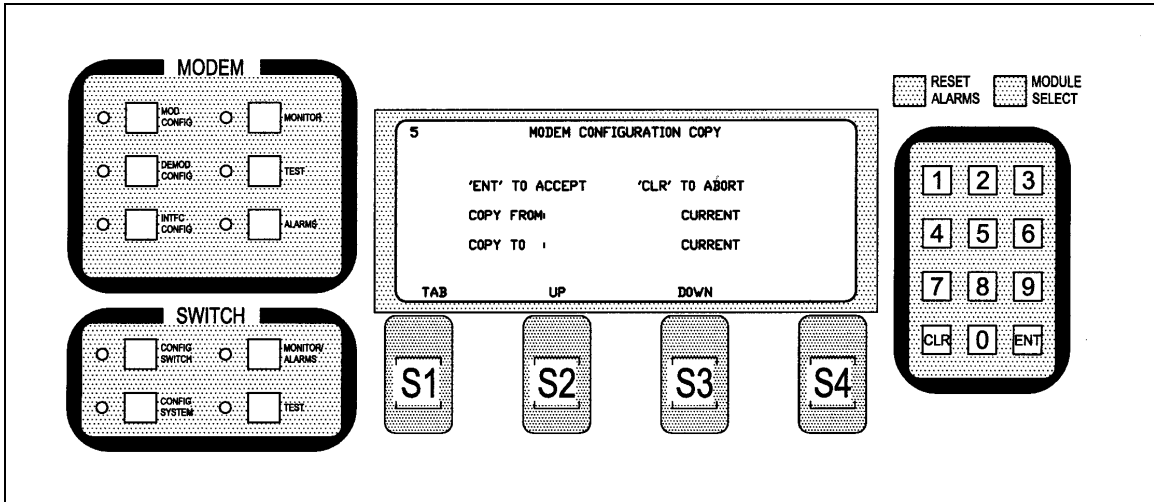

Figure 1.
1. From "Interface", go to the 'Config'. The 'Modem Configuration Copy' Screen (Refer to Figure 1) will appear.